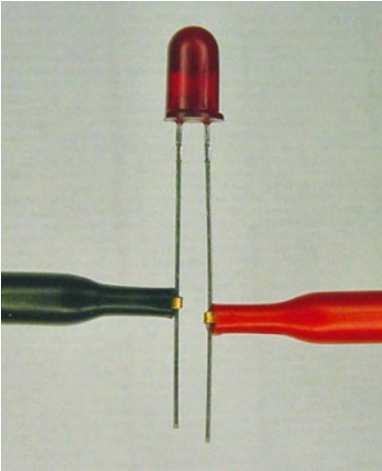

Figure 10-14. LED connected to hook adapter probes for testing
6. Find the cathode lead of the LED. Usually that’s the shorter of the two wires, but check for a flat notch at the bottom of the LED lens to be sure. Connect the black probe to the LED’s cathode (-) and connect the red probe to the LED’s anode (+) (see Figure 10-14). It’s a lot easier if you use hook adaptors on the multimeter test probe tips. Don’t worry if you connect the LED in reverse. It’s not harmful.